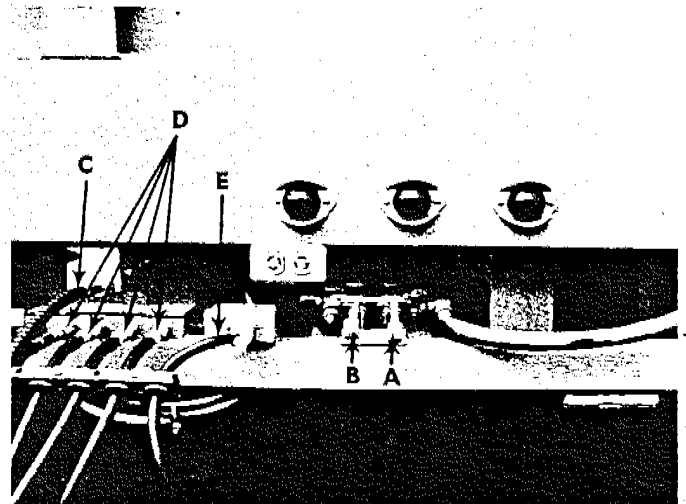

Fig. 16
(3) Store the turnbuckles and the spreader bar under the ride.
(4) Push the platforms slightly apart to start lowering them.
- b. NOTE: The control center is located on rear of the trailer frame. The lever on right (a) operates the platforms and the lever on the left (b) operates the tower. (Fig 16)
- b. Connect the control cable (c), air hoses (d) and power cord (e) to the control center. (Refer to Fig. 16)
- To raise the tower, lift up on the left lever on the control center. (Refer to Fig. 16-b)